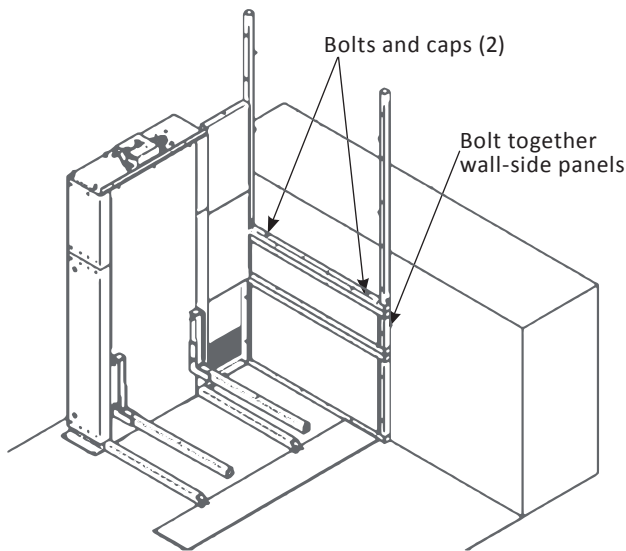

Figure 3-4
- Depending on the application, specifically if it is a wall side first, you may not have access to the bolt holes when it is assembled. Use the fastener kit specified on the installation drawing to assemble panels. *See Figure 3-4.*